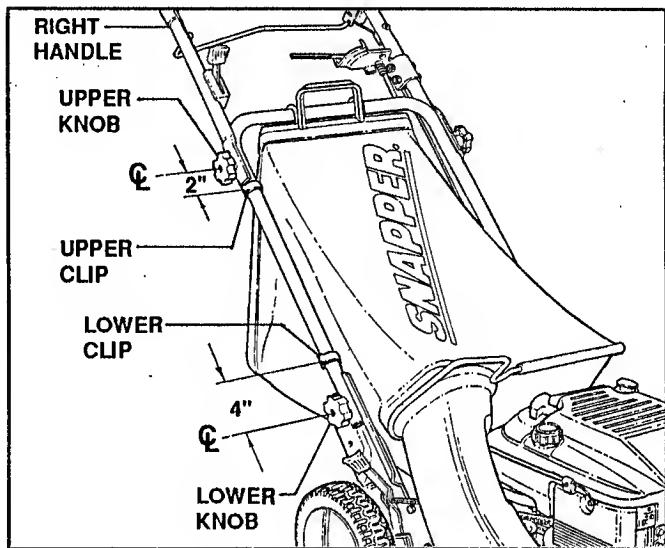

FIGURE 3.10
D. If the wheel drive control fails to return quickly to the "OFF" position when released, check for binding at the cable clips located on the side of the right handle. The upper clip should be located 2" below the center of the upper knob; the lower clip should be 4" above the center of the lower knob. The cable should slide freely with the clips installed at these locations. See Figure 3.10.